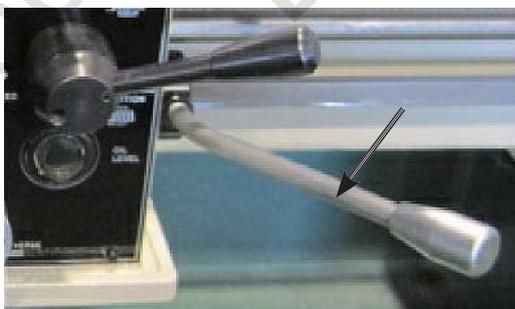

Figure 21. Spindle ON / OFF lever.
- Move the spindle ON / OFF lever to the OFF position as shown in Figure 21.